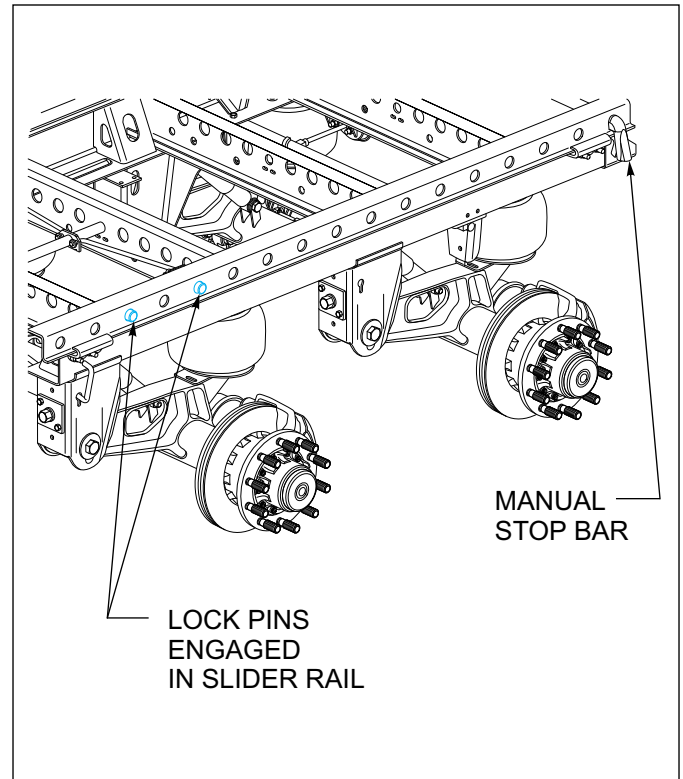

Figure 3-7: Manual Stop Bar
12. Visually check that the lock pins are fully engaged and extend through the holes in the upper rail (See Figure 3-7.)
13. Visually check that the manual stop bar is properly installed directly behind slide box (See Figure 3-7.)